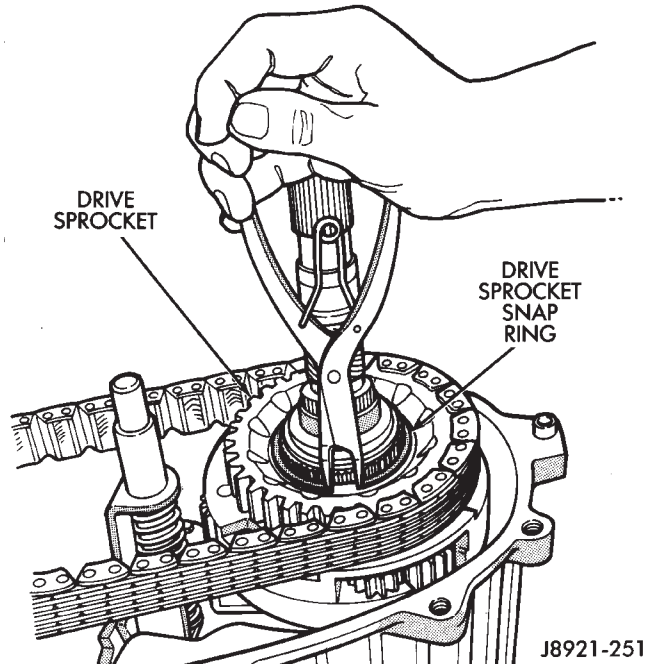

Fig. 69 Installing Drive Sprocket Snap Ring
- (54) Install drive sprocket snap ring (Fig. 69).